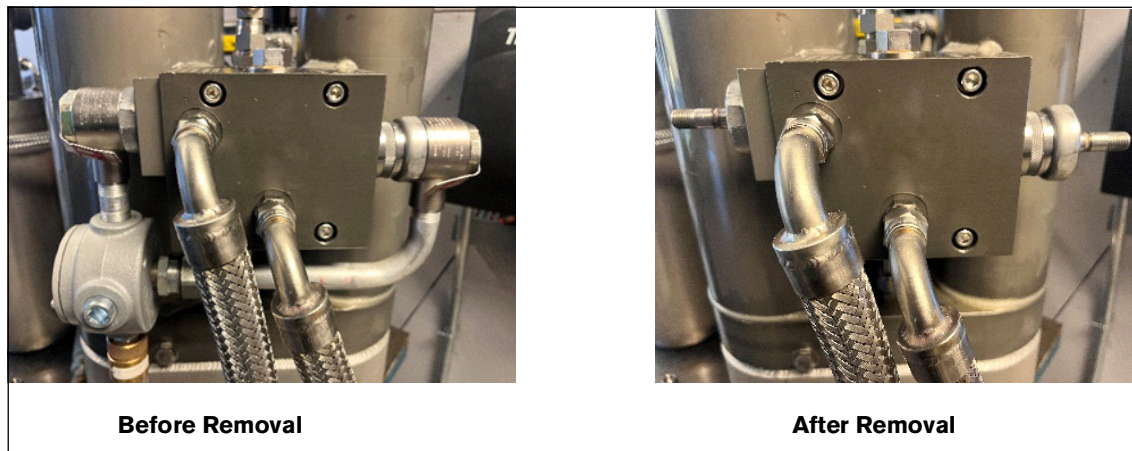

Figure 5. Solenoid Valves/Conduit Removed
- Remove the conduit body and electrical coils from both solenoid valve stems and set them aside (see Figure 5).